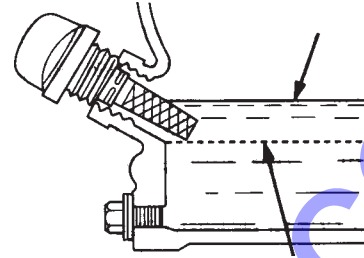

Figure 5. Engine Oil Dipstick (Oil Level)
4. If the oil level is low (Figure 5), fill to the edge of the oil filler hole with the recommended oil type (Table 3). Maximum oil capacity is .63 quarts (.60 liters)